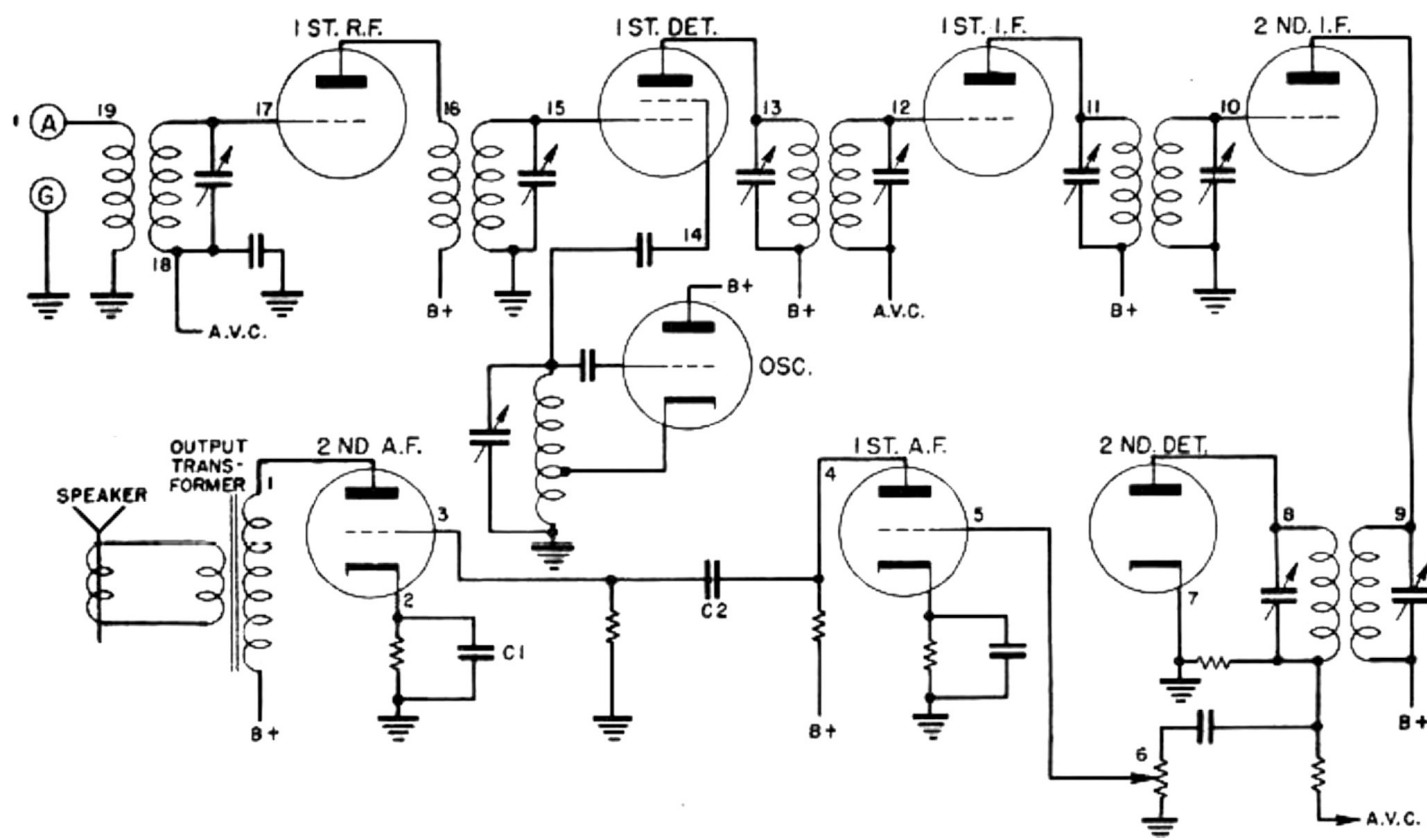
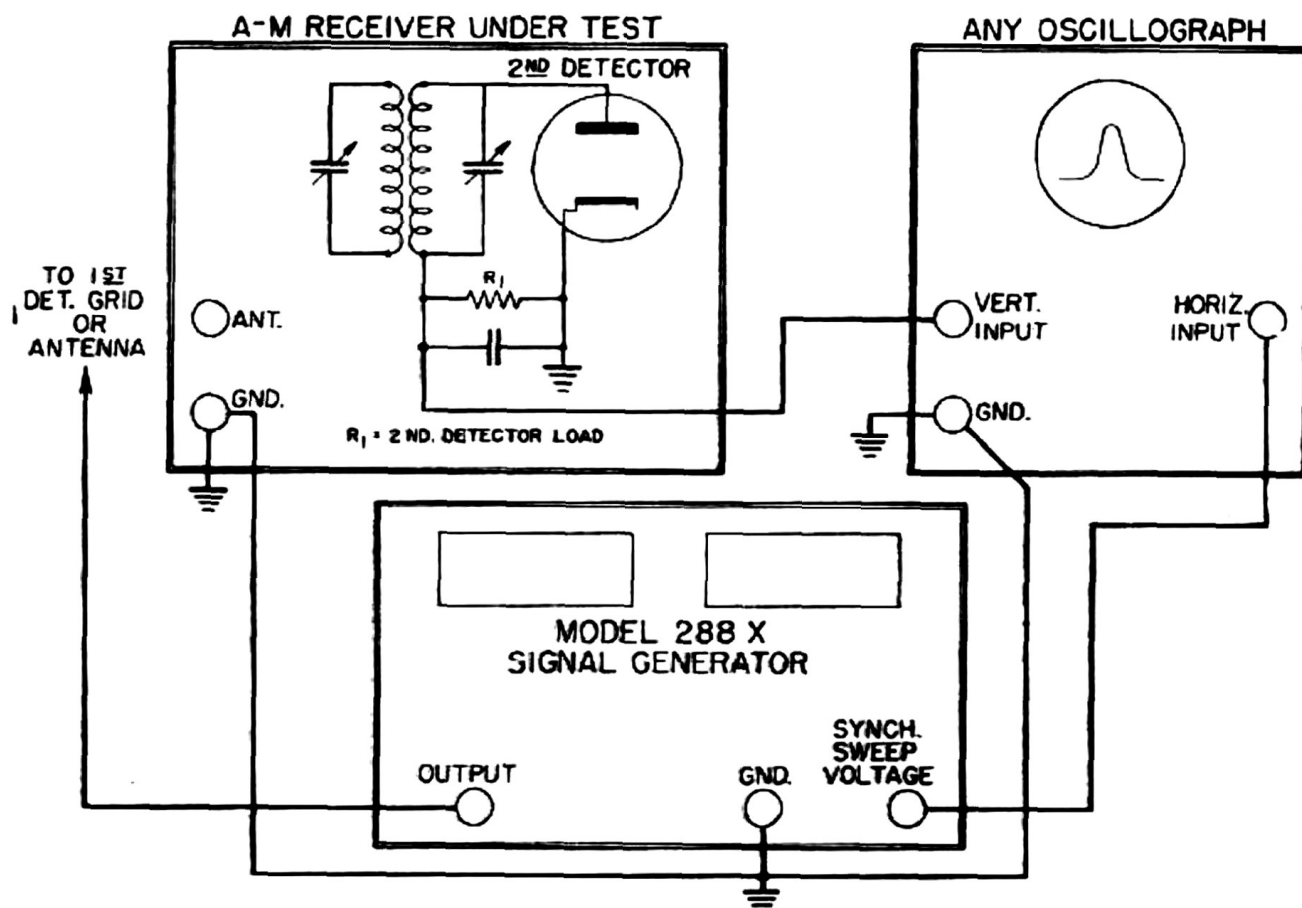
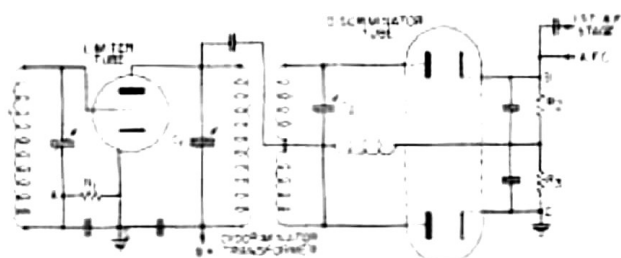

Figure 4.1 - Basic Circuit,
Figure 4.2 - Interconnections for Alignment
Figure 4.3 - Discriminator Circuit
In general, all of the models may be used for the same purpose. Should the Model 277X be purchased, a voltmeter may be used, in many cases, to replace the decibel meter. As the applications indicated here are general in nature, the specifications of the manufacturer should be consulted in making all tests. A basic circuit diagram of the seven tube amplitude modulated superheterodyne receiver which is referred to throughout the following discussions is shown in Figure 4.1. Frequency modulated receiver circuits have, in addition to the stages shown, limiter and discriminator (2nd detector) stages. (Frequency modulation is discussed in detail in Section II, Theory, Paragraph 2.6).
The following chart summarizes the alignment effected, the signals required, the indicating medium required, the points of connection for both, and the alignment adjustment necessary for the alignment of the stages of both amplitude and frequency modulated receivers. In conjunction with this chart, reference is made to the text for greater detail on the alignment to be made and to Figure 4.2 which shows the interconnections of the oscillograph, signal generator and the receiver. All points given are with reference to the basic circuit of the superheterodyne receiver, illustrated in Figure 4.1, and the discriminator circuit illustrated in Figure 4.3. The oscillograms which will be obtained when making alignment by means of the oscilloscope are shown in Figure 4.4 - 4.10.
1. In frequency modulated receivers there is at least one, and sometimes two, limiter stages ahead of the discriminator (2nd detector) stage. See Figure 4.3. The general procedure for the alignment of frequency modulated receivers is similar to that for the alignment of amplitude modulated receivers except that, in the alignment of various stages, it is necessary to have either a sensitive microammeter, preferably zero-centered, a vacuum tube voltmeter, such as the Hickok Models 125, 203 or 110D, or cathode ray equipment such as the Hickok Model 305.
2. Figure 4.3 illustrates a typical limiter and discriminator circuit. If no scope is available it will be necessary in the alignment of all i-f and r-f stages and the local oscillator preceding the limiter stage, to either disconnect the limiter load resistance, R_1 , from ground and insert a microammeter, or to connect a vacuum tube voltmeter across R_1 , and use either meter as an indicator of alignment of the preceding stages. The alignment procedure will be identical to that for amplitude modulated receivers.
-- All connections are made in reference to Figure 4.1. Connect the decibel meter either at the primary of the output transformer (point 1), or across the voice coil of the speaker, and feed a signal in at the grid of the audio frequency output stage (point 3). Note the reading of the indicating meter, and, maintaining the signal level constant, transfer the signal to the grid of the 1st A.F. (point 5). The gain of the stage can be calculated from the increase in the meter reading. If the tube is a triode, the gain may not exceed 10. However, if it is a pentode, the gain may be as high as 50 or 100.
a. General - The Model 288X, when properly used, is a very valuable instrument for locating trouble in electronic devices. In the case of radio receivers it is advisable in locating faults, to start at the speaker or output stage and work back towards the antenna. All following information on trouble-shooting is with reference to the basic circuit of the superheterodyne receiver, illustrated in Figure 4.1.